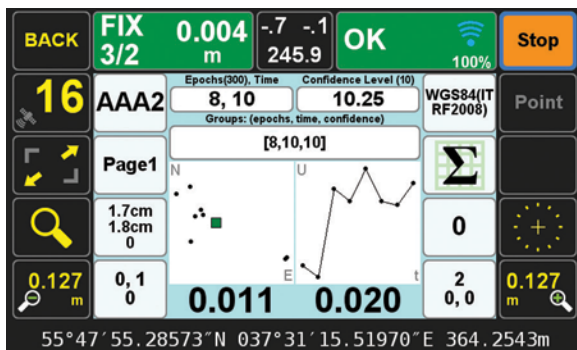

Figure 3 End of Step one
- **Step One.** In Step One, fixed engines are reset and solutions are collected into groups. Each group contains all the epochs located within a specified radius (the CG value) from its center and new groups are created as necessary so that all epochs fall into at least one group. Each group has its own Epoch Counter, Confidence Level and Elapsed Time. A point may fall into more than one group. The groups are sorted from best to last by the sum of their Time and Confidence with the current best group being shown within [ ] and others within ( ). Step One continues until a group reaches the Confidence Level. (Figure 3)